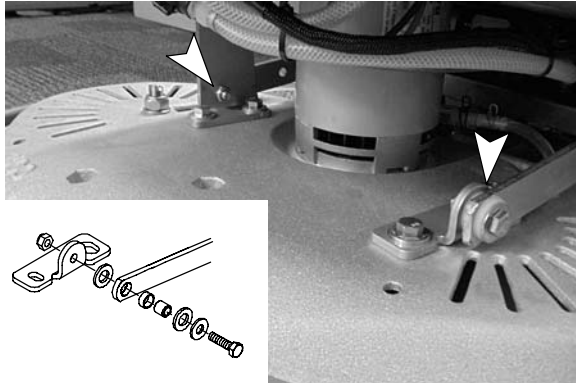

FIG. 67
1. Using a 13 mm wrench, disconnect the scrub head lift arms from the scrubhead mounting brackets as shown (Figure 67).